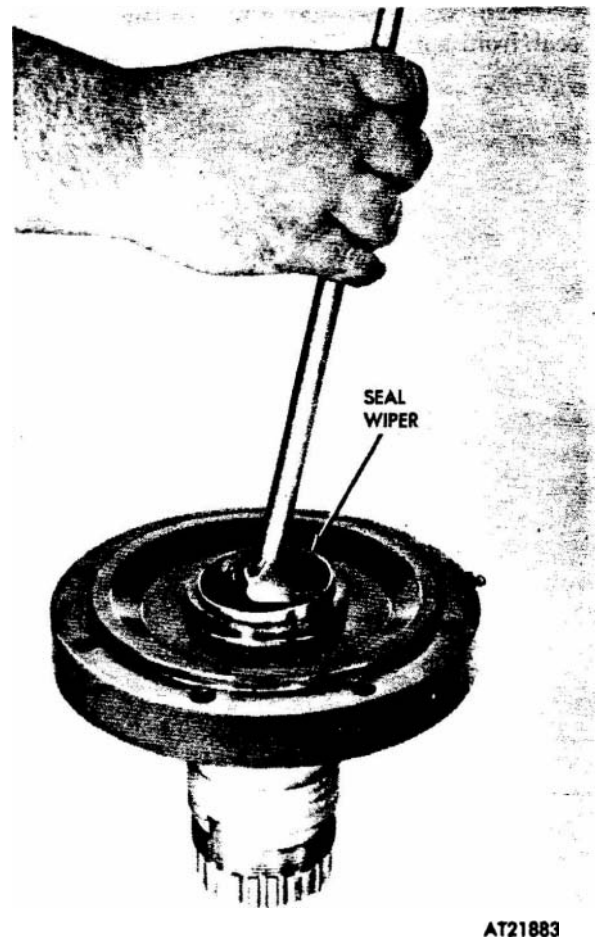

Figure 2-230. Seal wiper removal.
(25) Using a suitable tool such as a chisel loosen seal wiper and then extract it from spindle (fig 2-230).